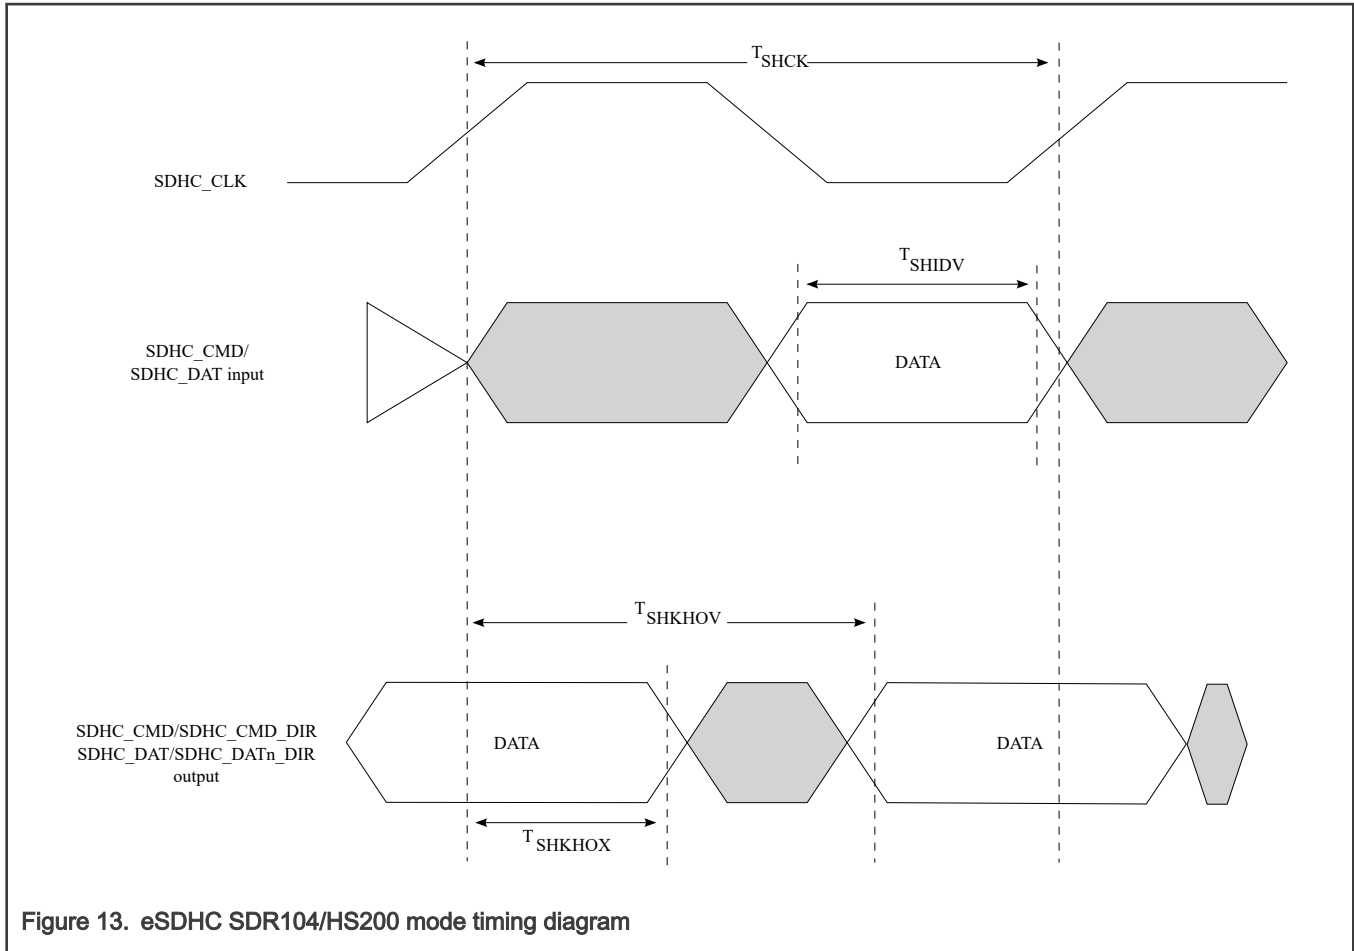

Figure 13. eSDHC SDR104/HS200 mode timing diagram
2. The symbols used for timing specifications herein follow the pattern of t(first two letters of functional block)(signal)(state) (reference)(state) for inputs and t(first two letters of functional block)(reference)(state)(signal)(state) for outputs. For example, tSHKHGX symbolizes eSDHC highspeed mode device timing (SH) clock reference (K) going to the high (H) state, with respect to the output (O) reaching the invalid state (X) or output hold time. Note that in general, the clock reference symbol is based on five letters representing the clock of a particular functional. For rise and fall times, the latter convention is used with the appropriate letter: R (rise) or F (fall).
3. See Figure 13.
5. For HS400 without enhanced strobe (DQS) command, see Figure 13.